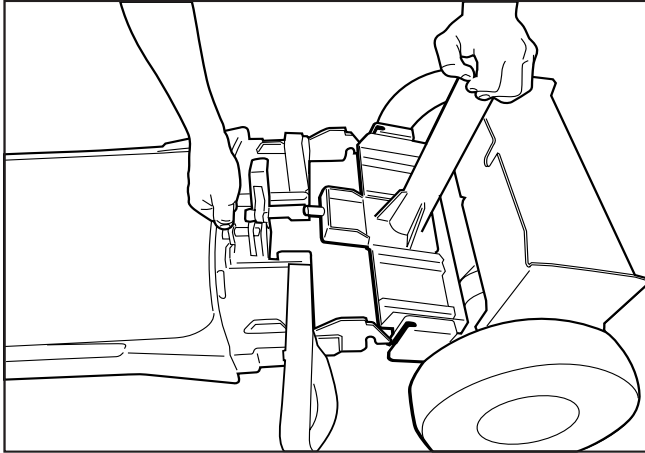
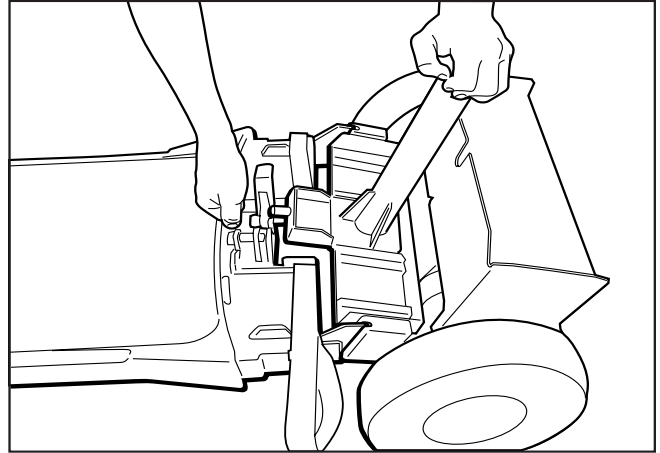

Fig. 24
Fig. 25
1. To reconnect the frame, lift the "T" handle and guide the front frame hooks into the rear frame sockets. It helps to stabilize the rear frame by holding the seat post. (Fig.24 and Fig. 25)